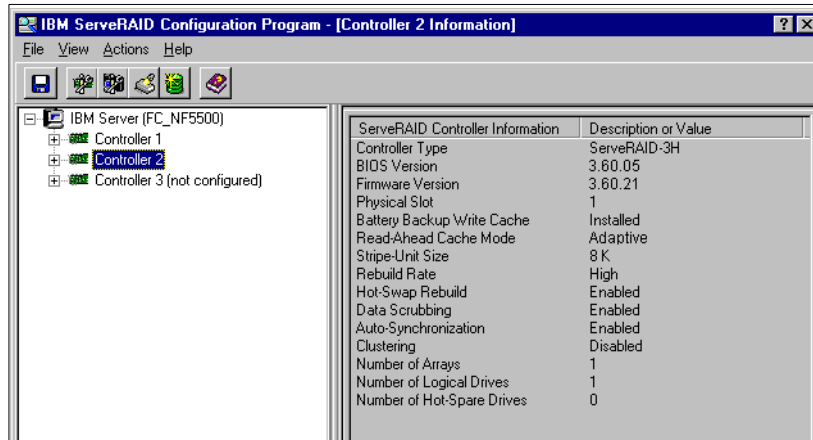

Figure 61. Configuring fault-tolerant pair
**Note:** In this example, controllers 2 and 3 as shown in Figure 61 will be the fault-tolerant pair: